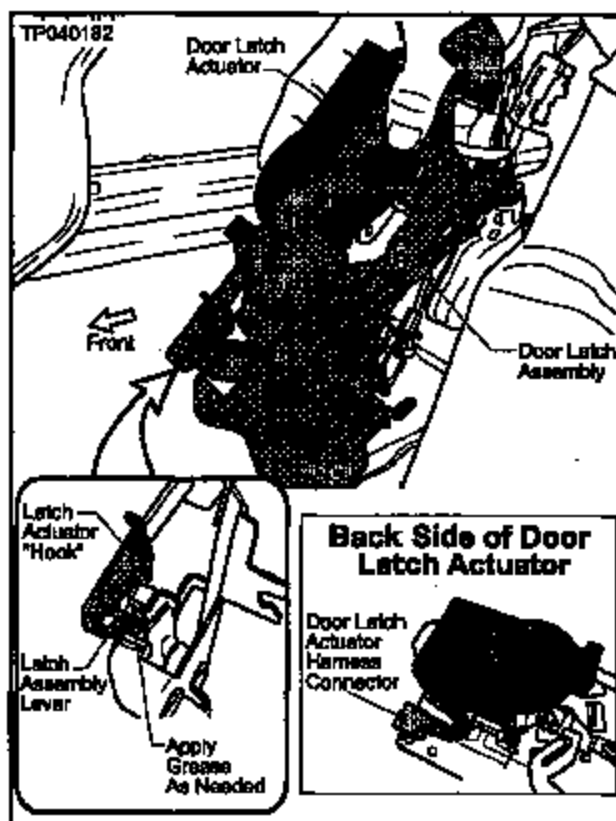

Figure 16
14. Install the new Door Latch Actuator to the Door Latch Assembly using three Screws (see Figure 16).
- Make sure the Latch Actuator "Hook" is properly engaged to the Latch Assembly Lever (see Figure 16).
- Make sure the Door Latch Actuator Harness Connector is correctly routed and securely re-attached to the Latch Assembly (see Figure 16).